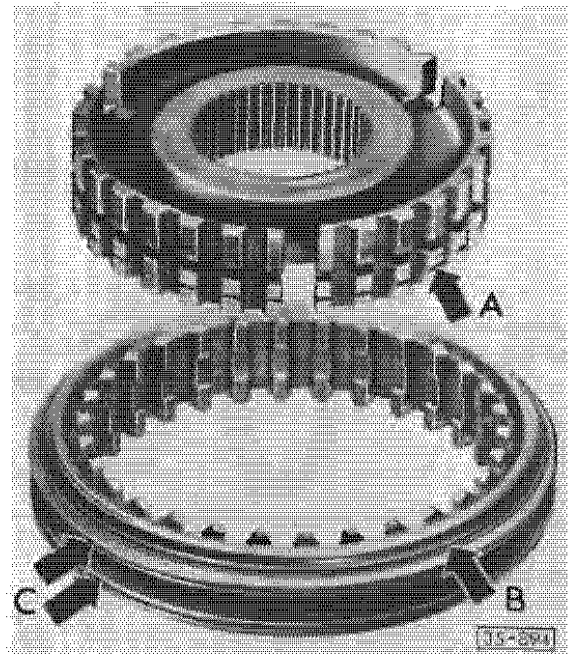

Fig. 3 Synchronizer 3rd/4th gear, assembling
- identification groove on sleeve (Fig. 3, arrow B) faces 4th gear